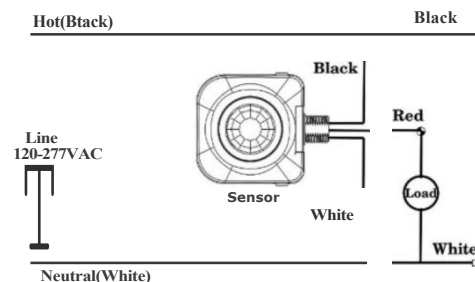

Fig.3B
- 3.Connect wire per Wiring Diagram as follows: BLACK lead to LINE(HOT);RED lead to LOAD; WHITE lead to NEUTRAL. Twist the existing wires together with the wire leads on YM2501A sensor as indicated below. Cap them securely using the wire nuts provided.(refer to Fig.3B)
5. Feed the sensor wires through the keyed nipple attached to the luminaire or electrical box and connect wires per Wiring Diagram as follows: Twist the existing wires together with the wire leads on YM2501A sensor as indicated above. Cap them securely using the wire nuts provided. (refer to Fig.3B)